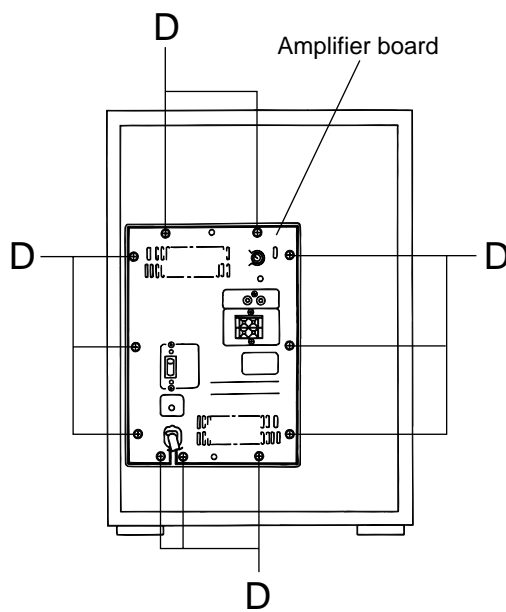

Fig.4
■Removing the amplifier assembly (See Fig.4)